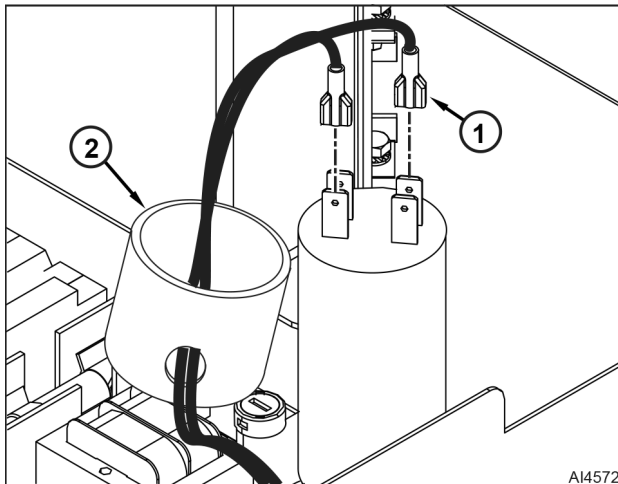

Fig. 19
4. Remove capacitor cover (2, Fig. 19).
6. Disconnect electrical wires / spade lugs (1, Fig. 19) from capacitor.